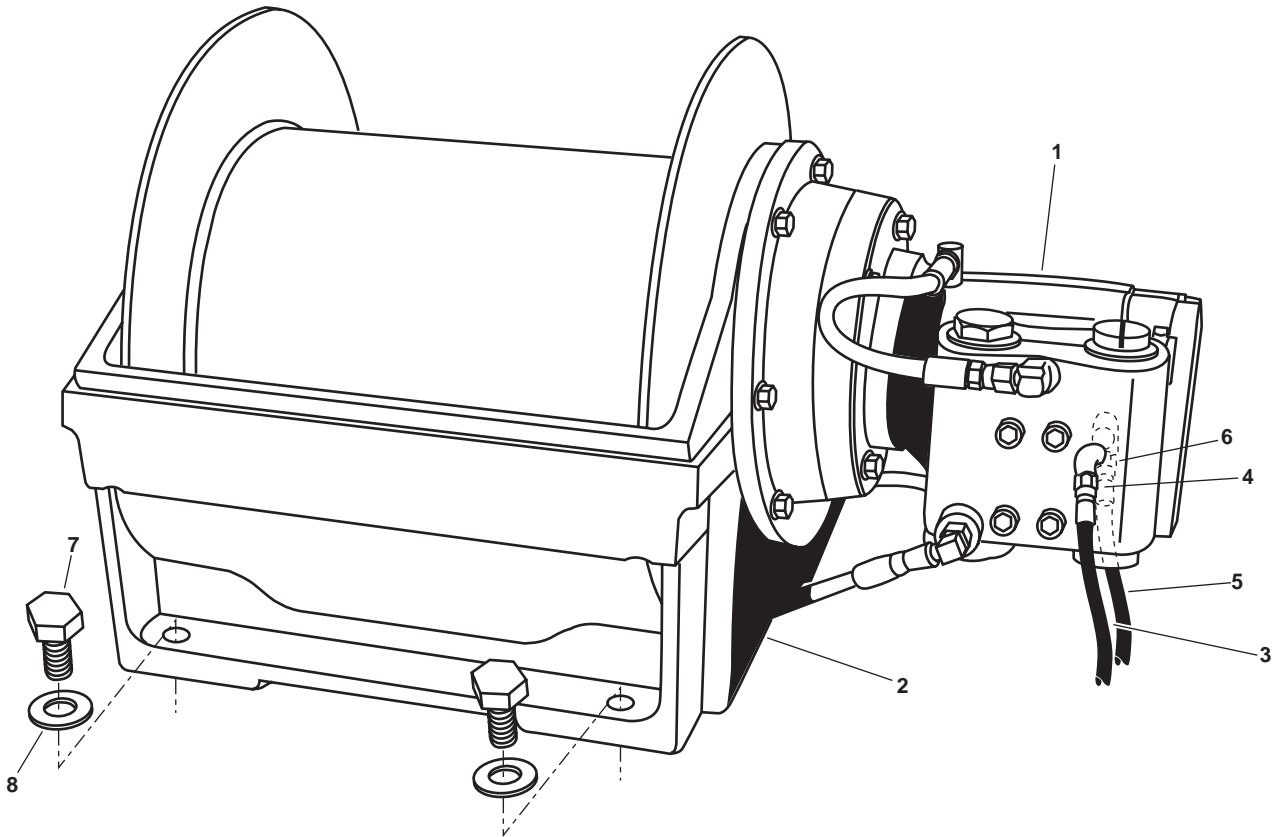

Figure 3. Crane Winch
2. Place a suitable drain pan under the hydraulic motor (figure 3, item 1) of the crane winch (figure 3, item 2).
3. Slowly release the hydraulic fluid pressure in the hydraulic fluid return hose (figure 3, item 3) by loosening the hydraulic fluid return fitting (figure 3, item 4). Do not remove the hydraulic fluid return hose until all the hydraulic pressure has been released.
4. Remove the hydraulic fluid return hose (figure 3, item 3) from the crane winch (figure 3, item 2). Drain any remaining hydraulic fluid into the suitable drain pan. Place an identification tag or label on the hydraulic fluid return hose and cover it with a clean rag to prevent foreign material from entering the hydraulic system.
5. Slowly release the hydraulic fluid pressure in the hydraulic fluid supply hose (figure 3, item 5) by loosening the hydraulic fluid supply fitting (figure 3, item 6). Do not remove the hydraulic fluid supply hose until all the hydraulic pressure has been released.
6. Remove the hydraulic fluid supply hose (figure 3, item 5) from the crane winch (figure 3, item 2). Drain any remaining hydraulic fluid into the suitable drain pan. Place an identification tag or label on the hydraulic fluid supply hose and cover it with a clean rag to prevent foreign material from entering the hydraulic system.
7. Rig the crane winch (figure 3, item 2) for lifting using the lifting sling.
9. Remove the four bolts (figure 3, item 7) and the four washers (figure 3, item 8) from the crane winch (figure 3, item 2).
10. Remove the crane winch (figure 3, item 2) from its foundation using the suitable crane.
1. Rig the crane winch (figure 3, item 2) for lifting using the lifting sling.
2. Install the crane winch (figure 3, item 2) on its foundation using the suitable crane.
3. Install the four bolts (figure 3, item 7) and the four washers (figure 3, item 8) in the crane winch (figure 3, item 2).
4. Connect the hydraulic fluid supply hose (figure 3, item 5) to the crane winch (figure 3, item 2).
5. Connect the hydraulic fluid return hose (figure 3, item 3) to the crane winch (figure 3, item 2).